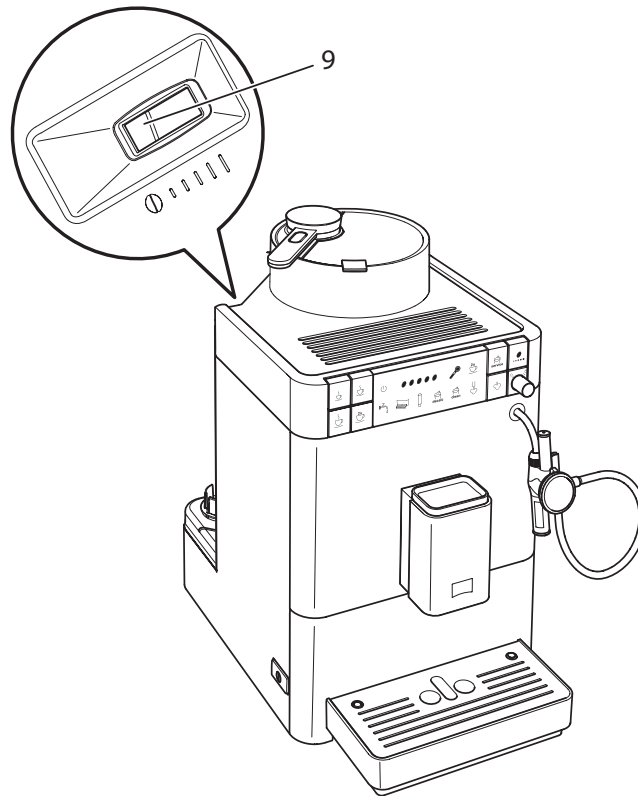

Fig. 14: Lever for setting the grinding fineness (Caffeo® Varianza® CS)
- » The "Grinding fineness adjustment" lever (9) is visible on the housing.
2. Move the lever to the left or right, as shown on *Fig. 14*.